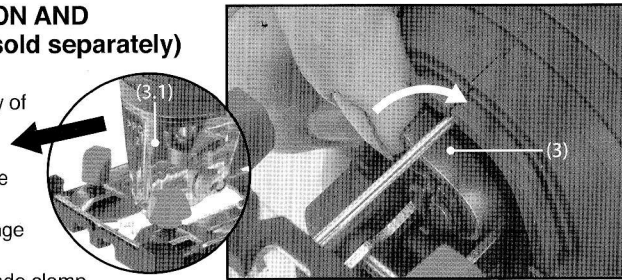

FIG.4
8.4 BLADE INSTALLATION AND REPLACEMENT (blades sold separately) – FIGS. 4 – 5